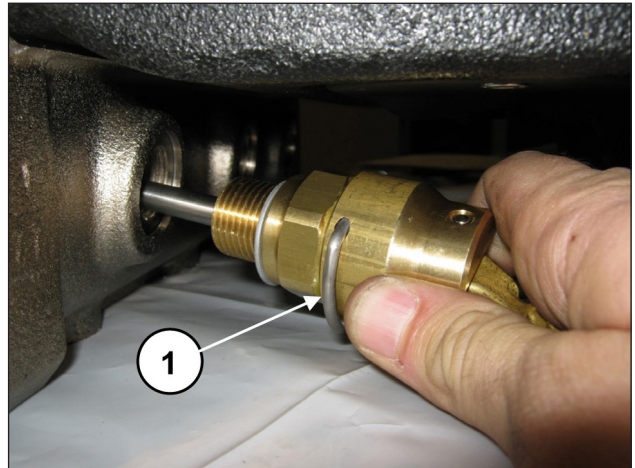
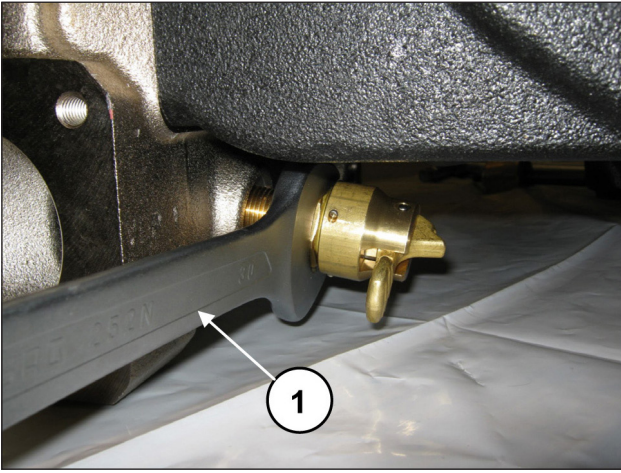

Fig. 164
Fig. 165
Apply the valve opening devices (pos. ①, Fig. 164) and screw them in with the use of a 30 mm spanner (pos. ①, Fig. 165).